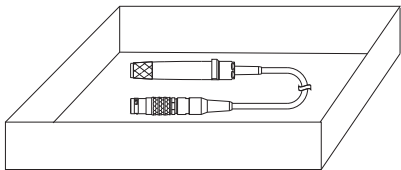

Fig.7
- 1 Store the product in a metal sterilization cassette (Fig. 7).